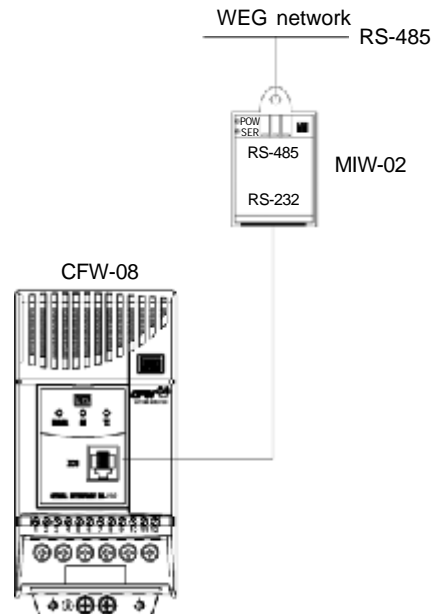

Figure 8.19 - Connection of the CFW-08 to a standard RS-485 communication network
- ☑ Figure 8.19 shows the line reactor connection to the input.